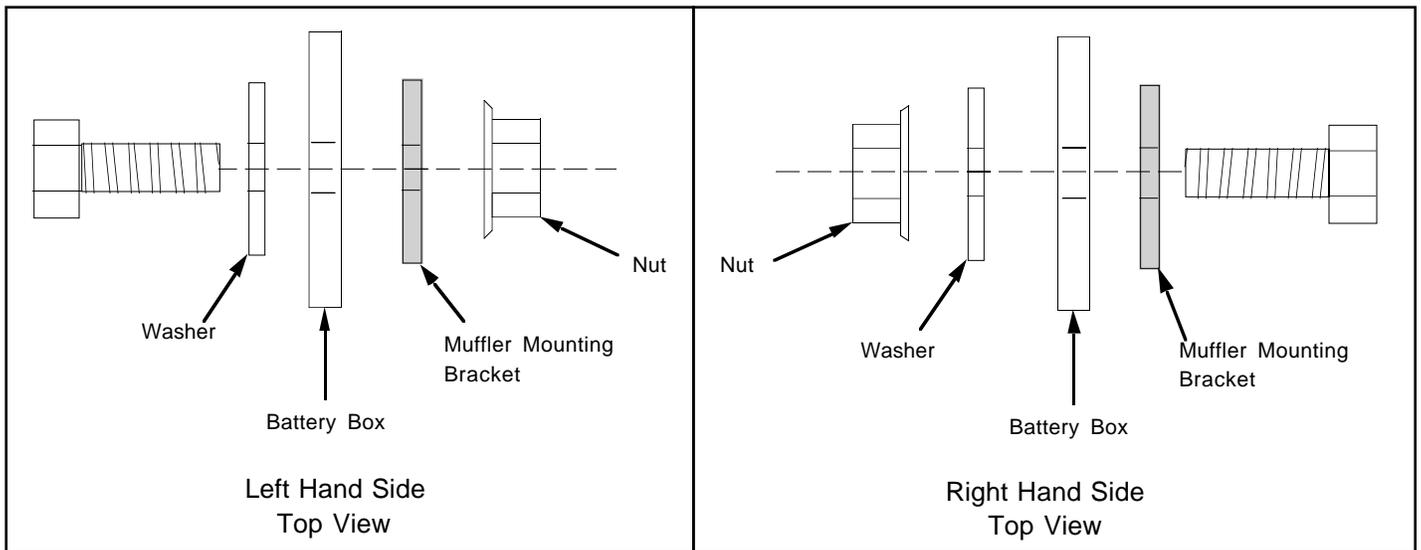

Figure 1
8. Slip the appropriate muffler onto the matching exhaust tube. Rotate the exhaust tubes until you can line up the muffler mounting hole with the hole in the battery box of the motorcycle. Mount the left side muffler bracket to the inside of the battery box, refer to Figure 1 for proper hardware installation on both sides. Install the stock mounting bolts, washers and nuts, leave them loose.